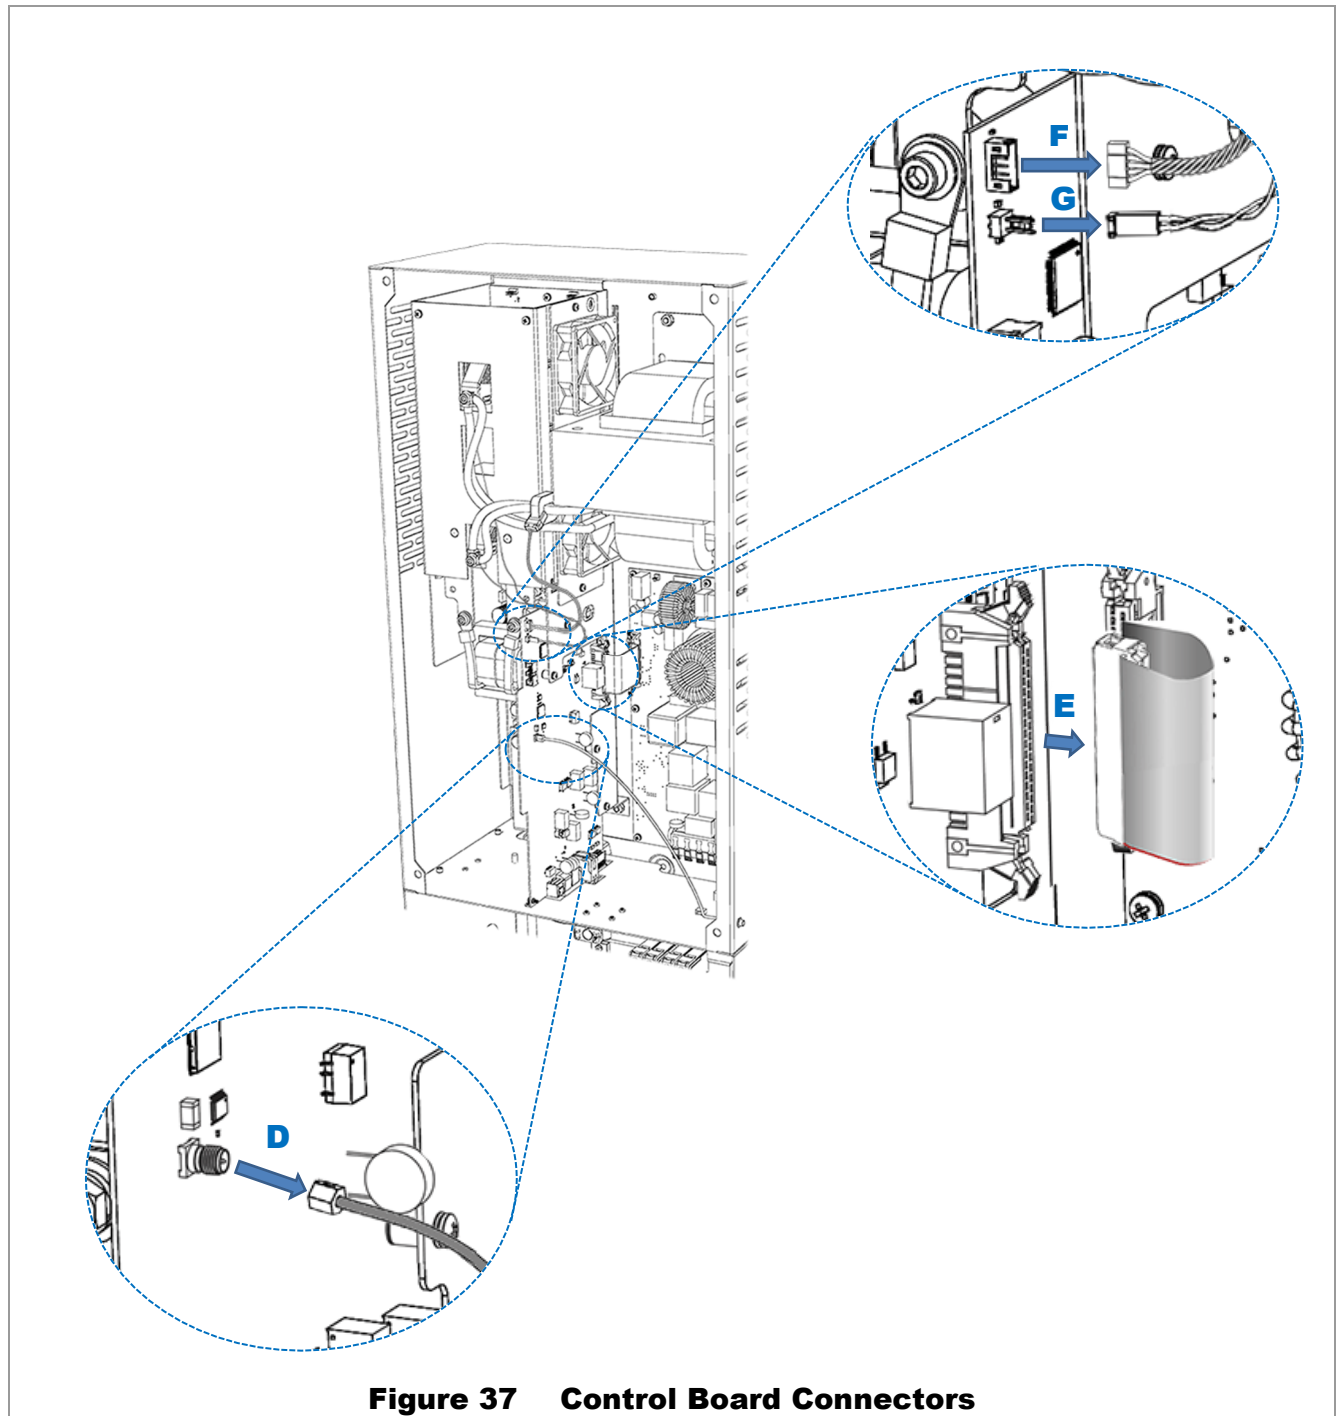

Figure 37 Control Board Connectors
3. On the control board, remove the following connectors (see Figure 37):
- Replace the connectors **G** and **F**. See Figure 37 if necessary.
- Replace the ribbon cable **E** and the SMA cable **D**. See Figure 37 if necessary.